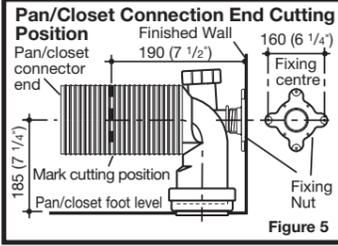

Figure 5
- 5- Position fixing nut onto threaded spigot and refit Uniconnector into pan/closet connector. Mark top three centre hole positions of the fixing nut on the finished wall. Determine and mark cutting position of pan/closet connection end 190mm (7 1/2") from finished wall and remove connector, as detailed in Fig. 5.